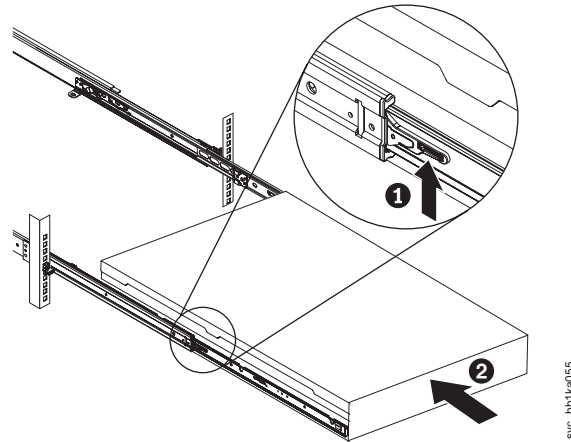

Figure 36. Raising the 2145-CG8 or 2145-CF8 locking levers of the slide rails of the rack
2. Lift the locking levers (**1** in Figure 36) on the slide rails and push the server **2** all the way into the rack until it clicks into place.